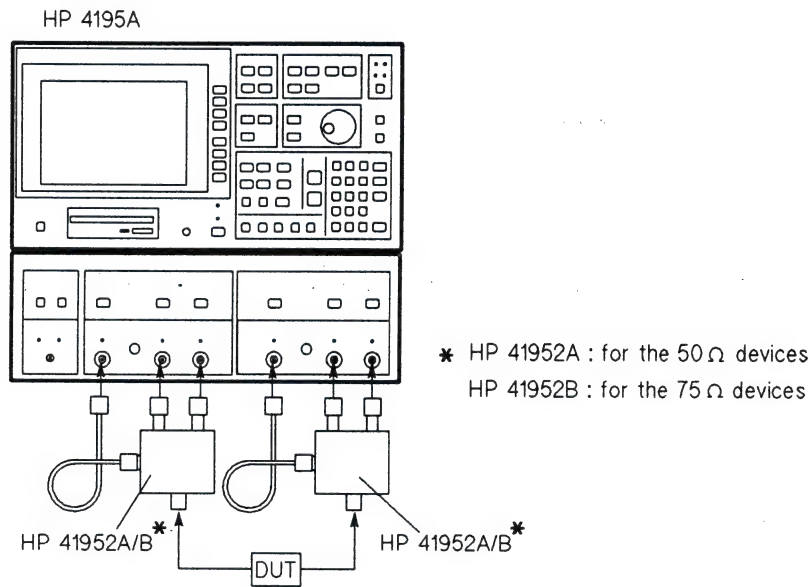

Figure 3-6. S-Parameter Configuration Setup Example
1. Connect two Transmission/Reflection Test Sets (two HP 41952A/Bs) to the 4195A's front panel output/input connectors as shown in Figure 3-6.